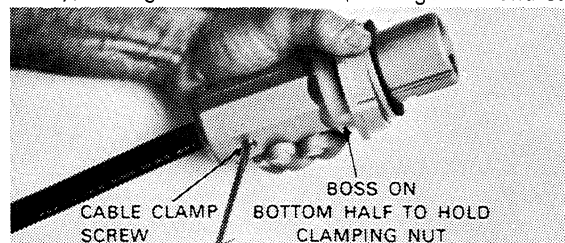

FIGURE 4. TIGHTENING CABLE CLAMP SCREW
10. Tighten all screws in assembly evenly so halves are drawn together properly. Push clamping nut into position on assembly, sliding notch over boss. (See Figures 4 and 5.)
11. Tighten cable clamp screws, tightening both sides evenly, to prevent cable from being pushed off center causing strain on wire terminations and/or adversely affecting cable seal bushings. (See Figure 4.)
12. Place gasket on plug in position shown in Figures 4 and 5.
APR Receptacle is assembled in a manner similar to APJ plug except insulator body is longer, completely shrouding contacts. The insulator is placed in gasketed half of shell with wide notch over boss in insulator recess. (See Fig. 4.)